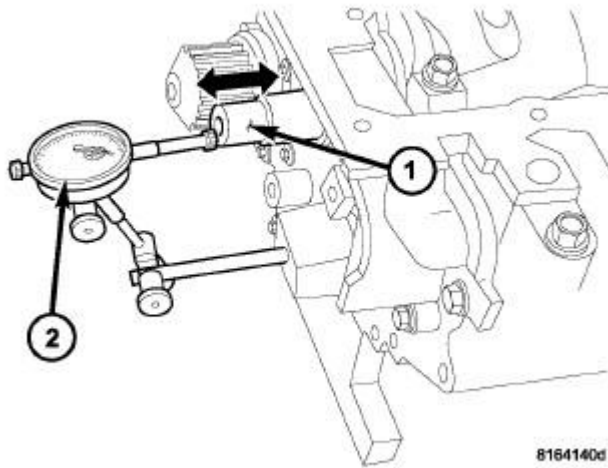

Fig. 211: Checking Crankshaft End Play - Typical
1. Mount a dial indicator (2) to front of engine with the locating probe on nose of crankshaft (1). Refer to **Fig. 211**.